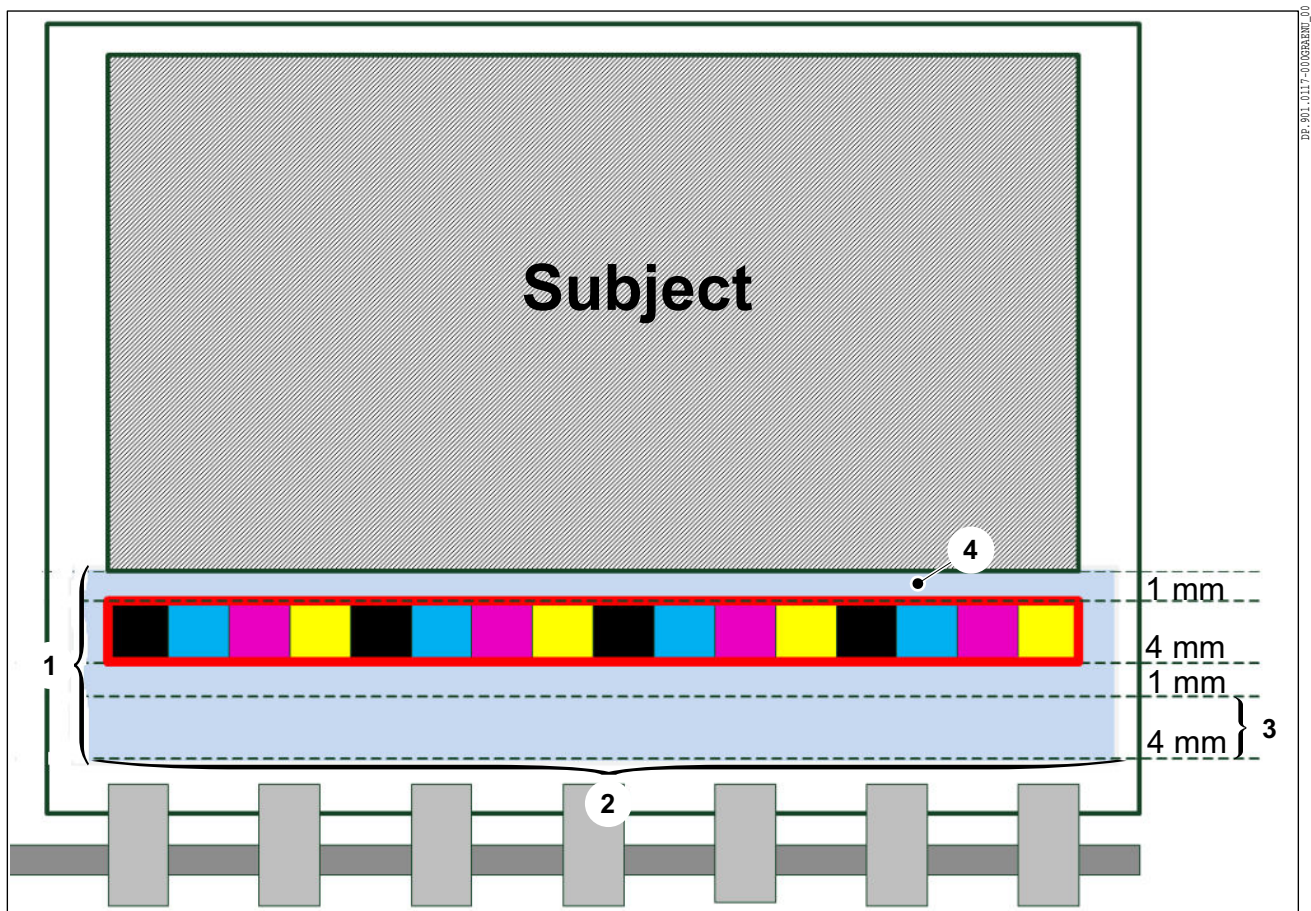

Fig. 33 Mounting and dimensions for the opaque white surface and the quality control strip
- The entire quality control strip must have an opaque white background (see Fig. 33).
- At least 1 mm of opaque white must be printed above the quality control strip (Fig. 33/4).
- At least 5 mm of opaque white must be printed below the quality control strip. This means 4 mm more material is required (Fig. 33/3) compared to conventional measurement on a white background! This space is always required, regardless of where the quality control strip is positioned on the sheet. This is therefore also the case when the strip is mounted in the middle.